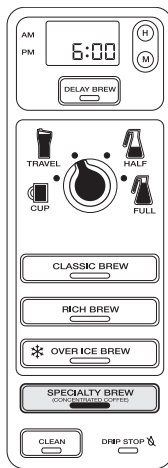

Fig. 20
- 3 Place the vessel that you would like to brew into underneath the brew basket. Press "Specialty Brew" and the brew will begin. (Fig. 20) Press the "Specialty Brew" again to cancel brew.